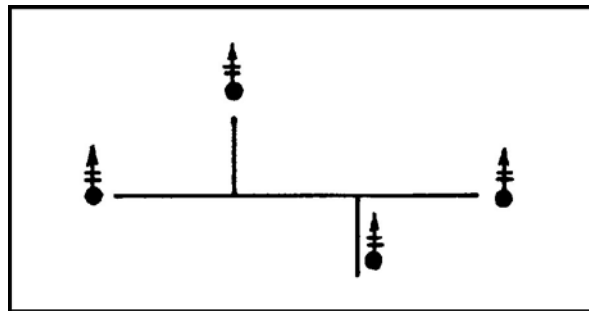

Figure 2. Lazy W formation.
- a. The lazy "W" formation (Figure 2), which employs the 4.2-inch, 81-mm, and 120-mm mortars on a modified line, provides wide coverage to the front and rear, but poor coverage to the sides. The lazy "W" needs an area at least 150 meters wide and 50 meters deep. It is a good formation for conventional warfare.